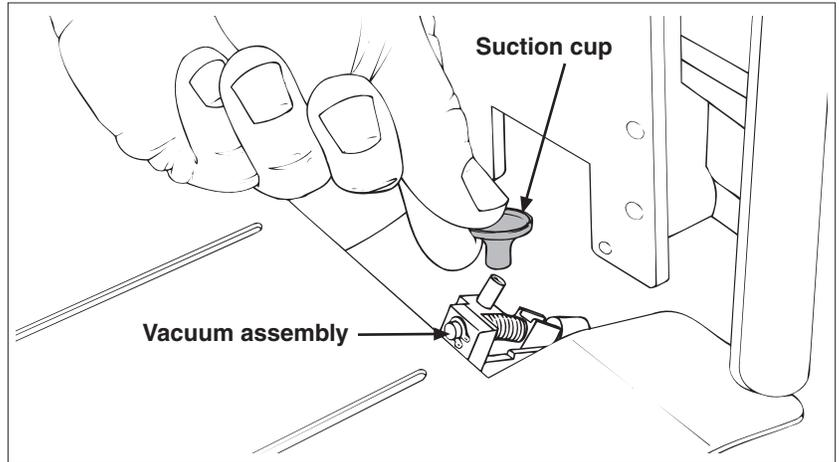

Figure 8. Removing Suction Cup from Vacuum Assembly
- Remove suction cup from vacuum assembly. See Figure 8.